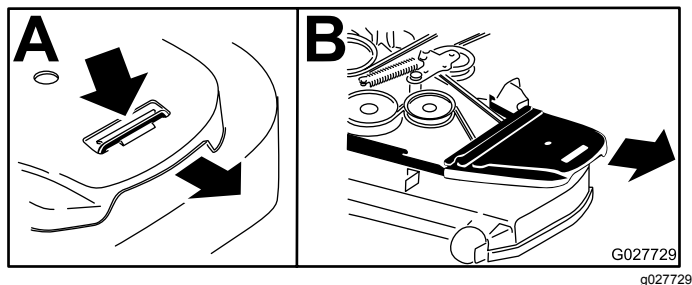

Figure 83
4. Remove the belt covers (Figure 83).